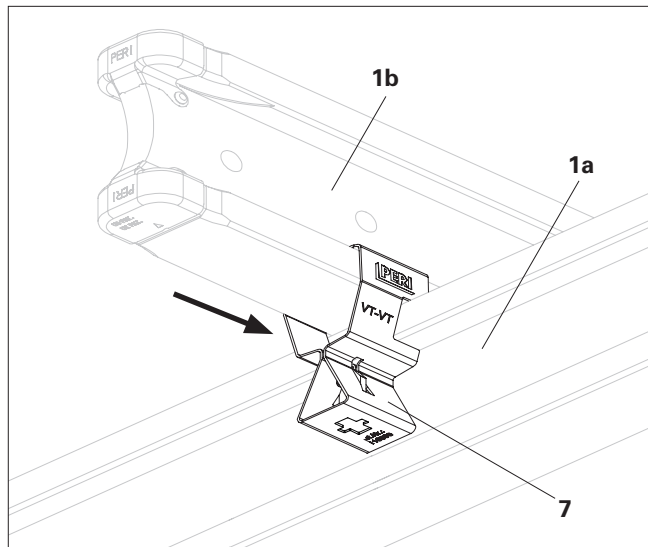

Fig. A4.08
2. The cross girder is now secure. (Fig. A4.08)